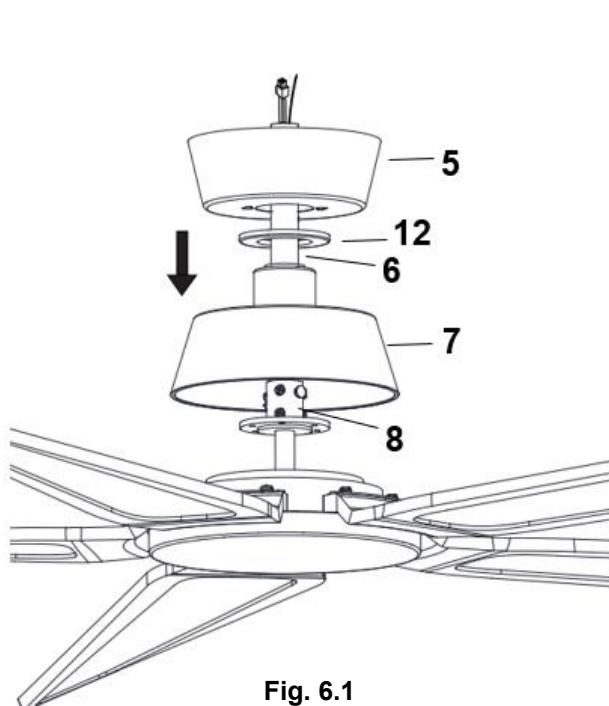
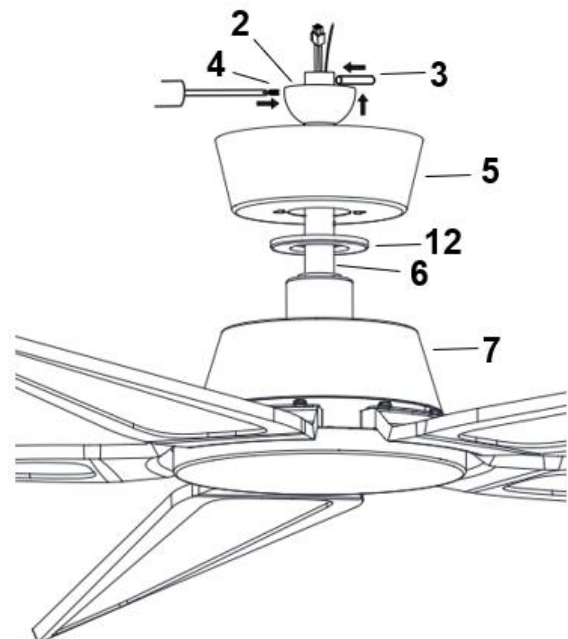

Fig. 6.1
Fig. 6.2
1. Insert the Decorative cover (7) onto the down rod (6) to cover the down rod coupling housing (8). (Fig. 6.1)
2. Insert the canopy (5) & canopy cover (12) over the down rod (6) and install the ball joint (2) and dowel pin (3) back onto the down rod (6) and secure by tightening the set screws (4). (Fig. 6.1 and Fig. 6.2)